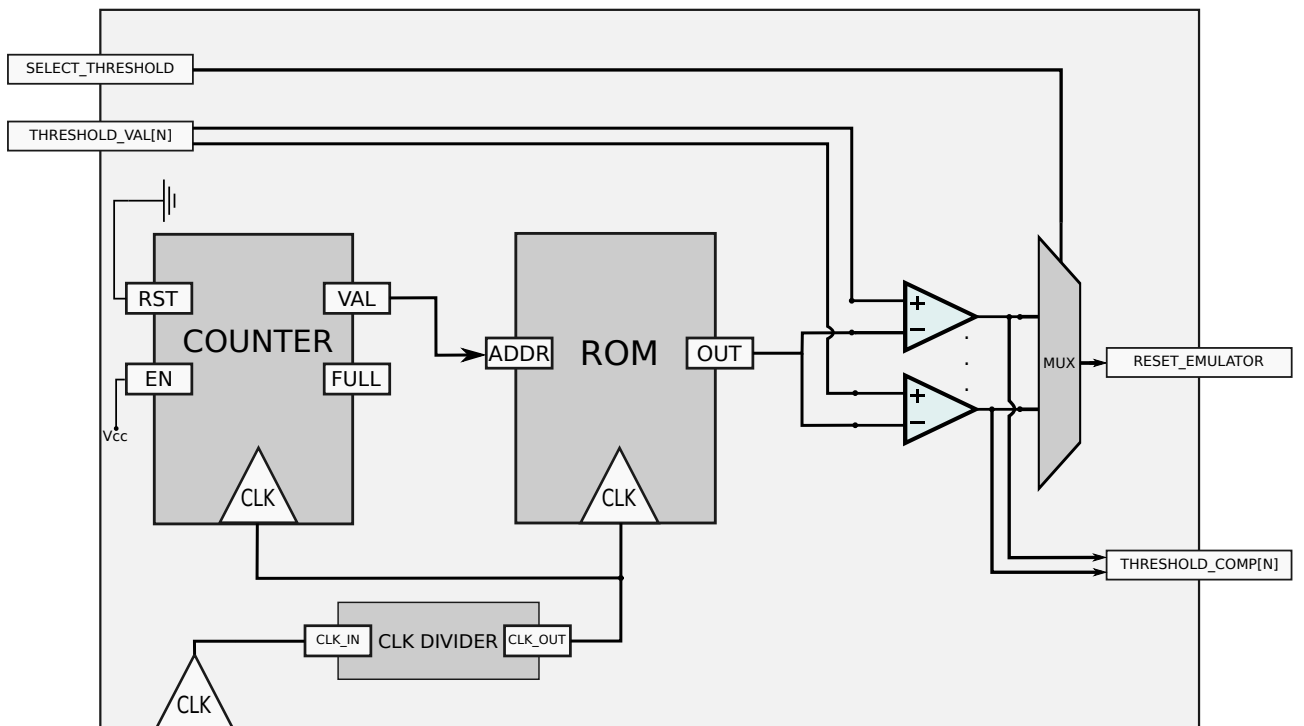

Figure 3.6: Intermittency Emulator Architecture
Intermittency Emulator (IE) (figure 3.6) is used to emulate a real case of lack of energy, in fact there is a ROM that contains a feigning voltage trace. User can set a variable number of threshold to compare with the voltage trace. One of those can be used as reset for the entity under test. The voltage trace values change each clock cycle (divided by a prescaler) thanks to a counter that is always-on. The process that manages the counter prescaled is: